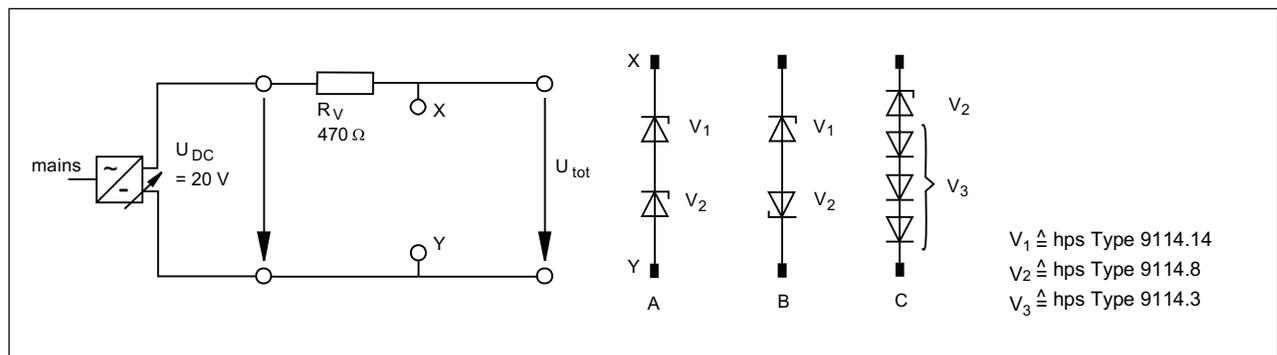

Fig. 2.3.2.1
For the same reason, rectifier and Zener diodes can be connected in series (see Fig. 2.3.2.1).
- Set up the circuit according to Fig. 2.3.2.1, connecting the series connections consisting of Zener and rectifier diodes as per Fig. 2.3.2.1 A ... C. Doing this, measure voltage  $U_{\text{tot}}$  with the multimeter and enter the measured voltages into Table 2.3.2.1.